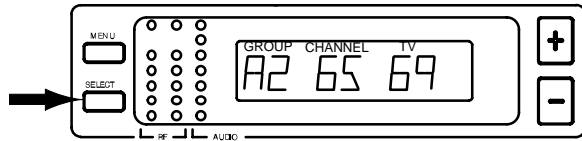

FIGURE 13
- Press the "SELECT" button to choose Group or Channel. The current Group, Channel, and TV channel setting will appear, as shown in Figure 13. (Models sold outside the U.S. and Canada may not display TV channel.)